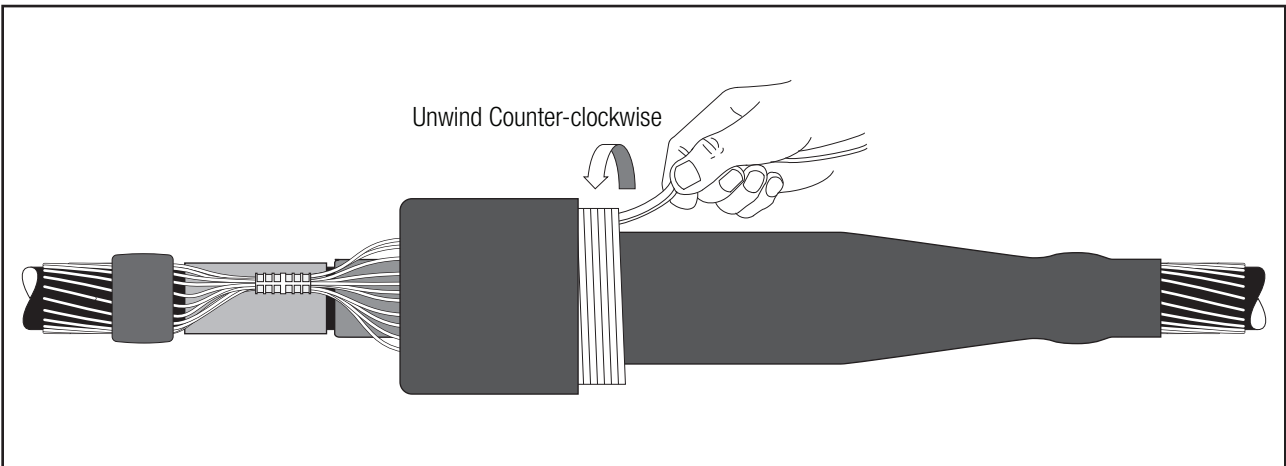

Figure 36
- 9.2 Continue to install the cold shrink tube over the rubber mastic on the other cable by slowly pulling and unwinding the outer core counterclockwise. This portion of the cold shrink tube installs differently than typical cold shrink products in that as the tube shrinks, the end rolls under. The tube may need a slight push to get over the second mastic seal (*Figure 36*).